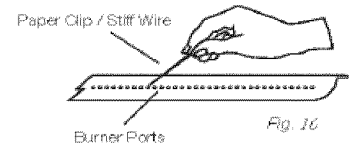

Fig. 10
7. Clean any clogged ports with a stiff wire (such as an opened paper clip). (See Fig. 10)